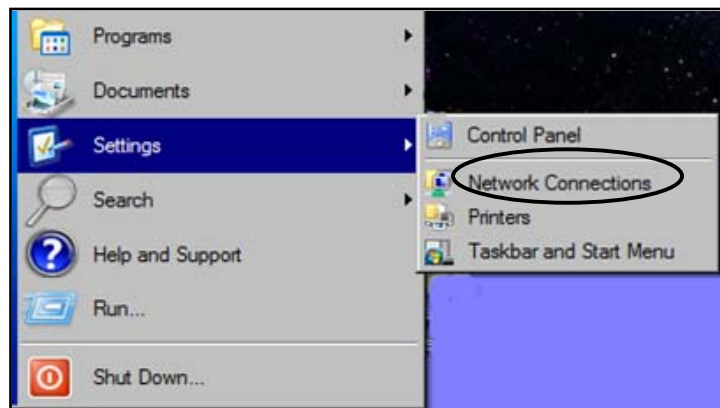

Figure 5-1. Open Network Connections
2. From the Laptop, click the Start Button, then Settings and Network Connections, **Figure 5-1**.